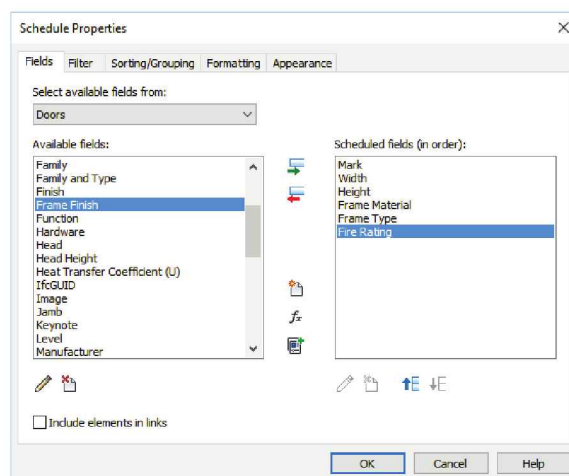

FIGURE 12-2.2 Schedule Properties – Fields
7. On the **Fields** tab, add the information you want displayed in the schedule. Select the following (Figure 12-2.2):